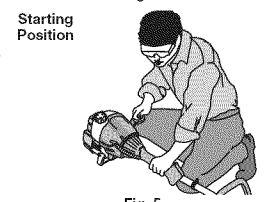

Fig. 5
WARNING: Avoid accidental starting. Make sure to be in the starting position when pulling the starter rope (Fig. 5). To avoid serious injury, the operator and unit must be in a stable position while starting.
4. Crouch in the starting position (Fig. 5), squeeze the throttle control, and pull the starter rope out with a controlled and steady motion 5 times.